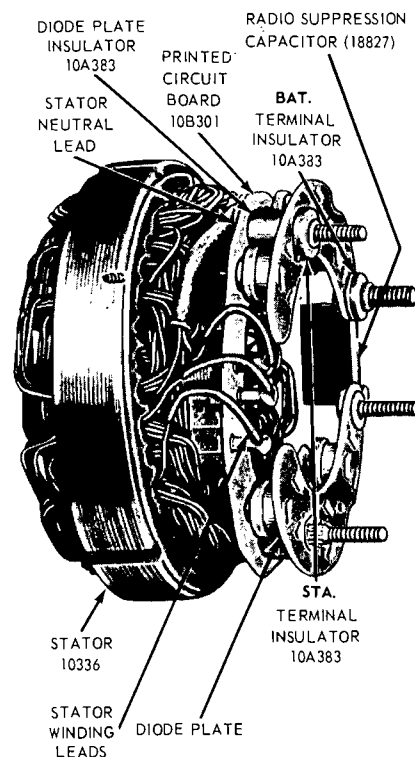
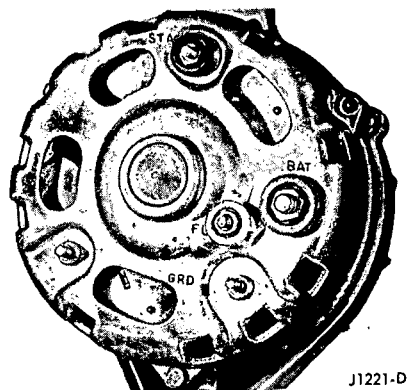

FIG. 8—Stator Lead Connections
FIG. 9—Alternator Terminal Locations
watt soldering iron and rosin-core solder. Position the stator neutral lead eyelet on the stator terminal insulators (Fig. 8). Position the diode assembly (Fig. 8).
10. Install the STA and BAT terminal insulators (Fig. 8). Position the stator and diode plate assembly in the rear end housing. Position the STA (black), BAT (red) and FLD (white) insulators, on the terminal bolts, and install five retaining nuts (Fig. 9).